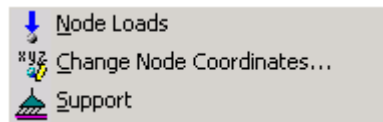

Figure 94 The pop-up menu which presents the joints' properties changing options.
- Click on the joint. The pop-up menu of figure 94 will appear.